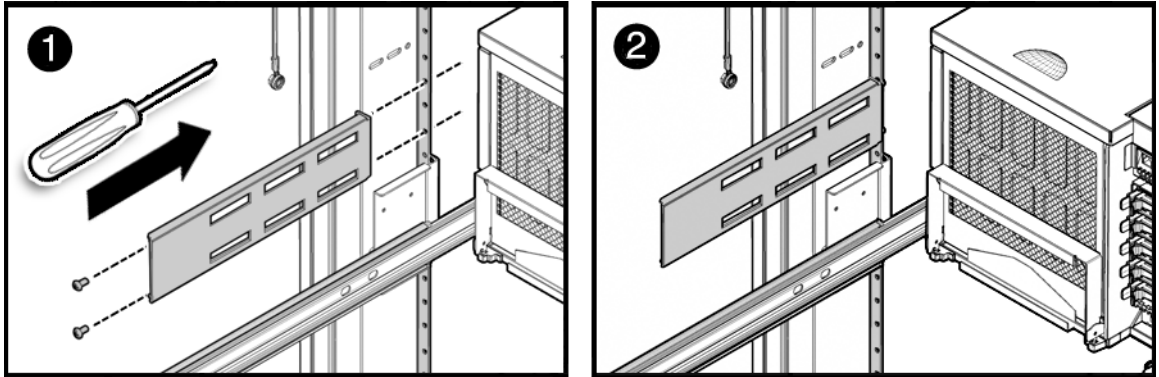

FIGURE 4 Installing the Bracket Kit in a rack 1000
3. **Position the cage nuts behind the threaded ears of the equipment rack and insert the two (2) screws through the bracket and rack ear (FIGURE 4).**